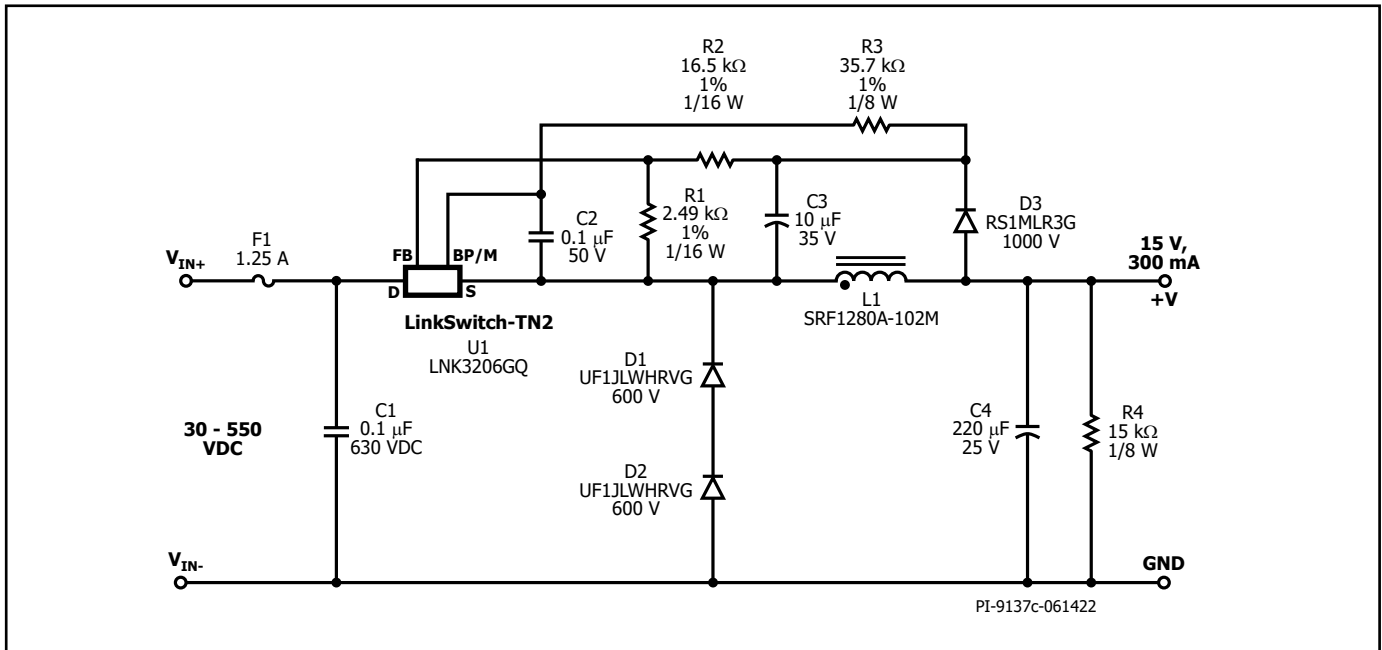
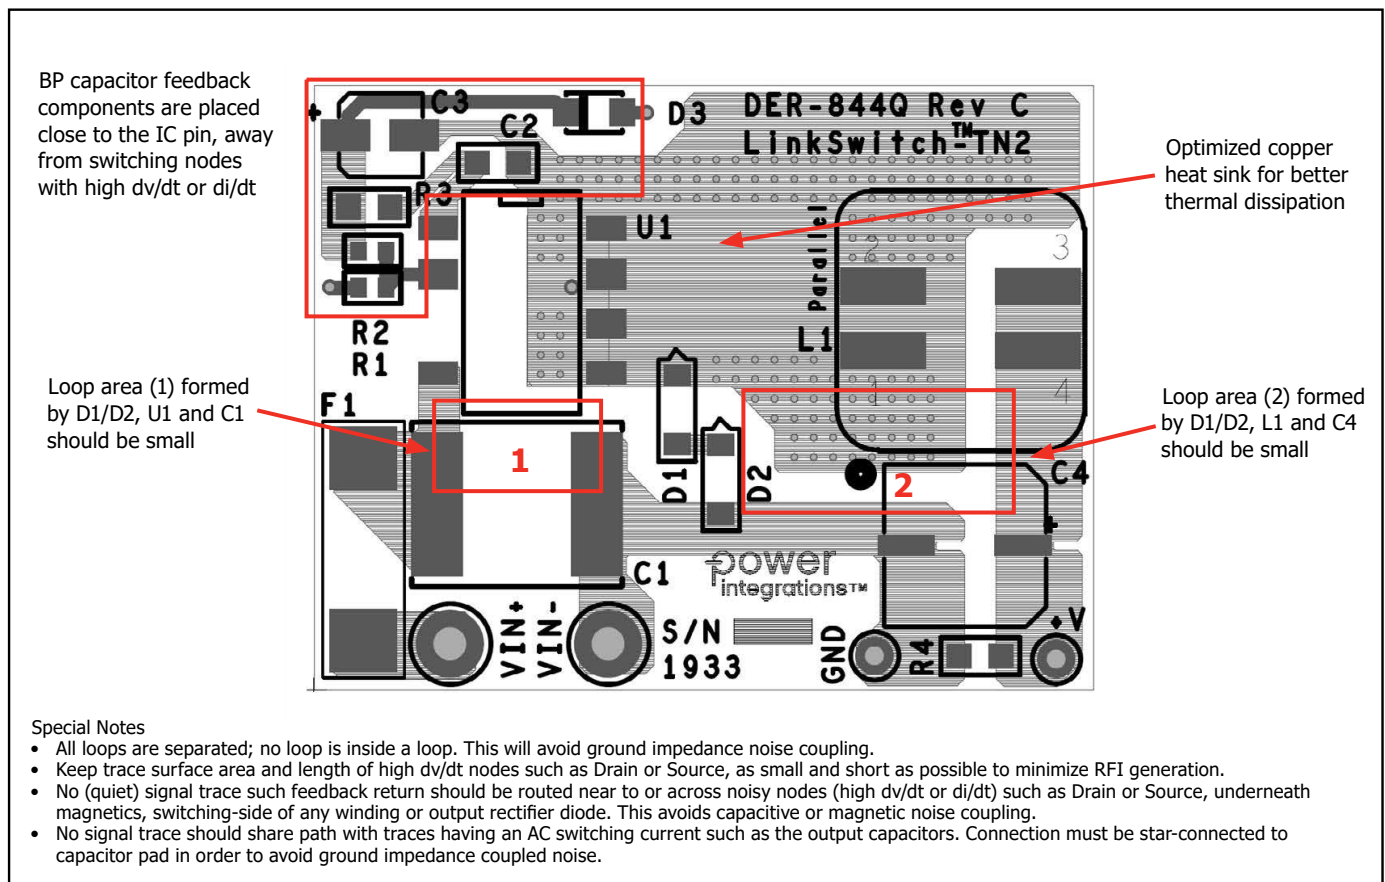

Figure 7. 30 VDC – 550 VDC, 15 V, 300 mA Constant Voltage Power Supply using LinkSwitch-TN2 Automotive.
Figure 8. Recommended Printed Circuit Layout for LinkSwitch-TN2 Automotive using G Package.
The circuit shown in Figure 7 is typical implementation of a 15 V, 300 mA non-isolated power supply used in automotive application. DC voltage from a battery source will be the input to the buck converter. The buck converter circuit was designed to meet AEC-Q100 Grade 3 temperature requirement of -40 °C to +85 °C.
Regulation is maintained by skipping switching cycles. As the output voltage rises, the current into the FEEDBACK pin will rise. If this exceeds I_{FB} then subsequent cycle will be skipped until the current is reduced below I_{FB} . Thus, as the output load is reduced, more cycles will be skipped and if the load increases, fewer cycles are skipped. To provide overload protection if no cycles are skipped during 50 ms period, LinkSwitch-TN2 Automotive will enter auto-restart, limiting the average output power to approximately 3% of the maximum overload power. Due to tracking errors between the output voltage and the voltage across C3 at light load or no-load, a small pre-load may be required (R4). For the design in Figure 7, if regulation to zero load is required, then this value should be reduced to 5 kΩ.
Referring to Figure 7, the following considerations may be helpful in selecting components for a LinkSwitch-TN2 Automotive design. Selected component should be AEC compliant due to automotive application.
Figures 8 are printed circuit board layout design examples for the circuit schematic shown in Figure 7. The loop area 1 formed by LinkSwitch-TN2 (U1), free-wheeling diodes (D1, D2), and input bypass capacitor (C1) should be kept as small as possible. The loop area 2 formed by inductor (L1), output filter capacitor (C4) and free-wheeling diodes (D1, D2) should also be kept as small as possible. The BYPASS pin capacitor C2 should be located physically close to the BYPASS (BP) and SOURCE (S) pins. Effective decoupling capacitor C1 placement should be close to the DRAIN (D) pin. For a clean feedback signal, Feedback diode (D3) should be star connected to output cap (C4). Trace from output cap (C4) to Feedback diode (D3) should be space out properly away from switching nodes.